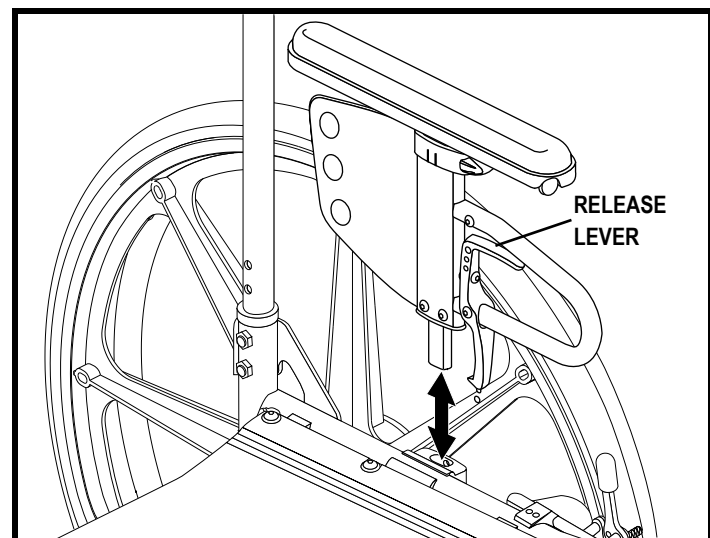

Figure 28. Single-post Armrest Removal
1. Squeeze the release lever. See figure 28.